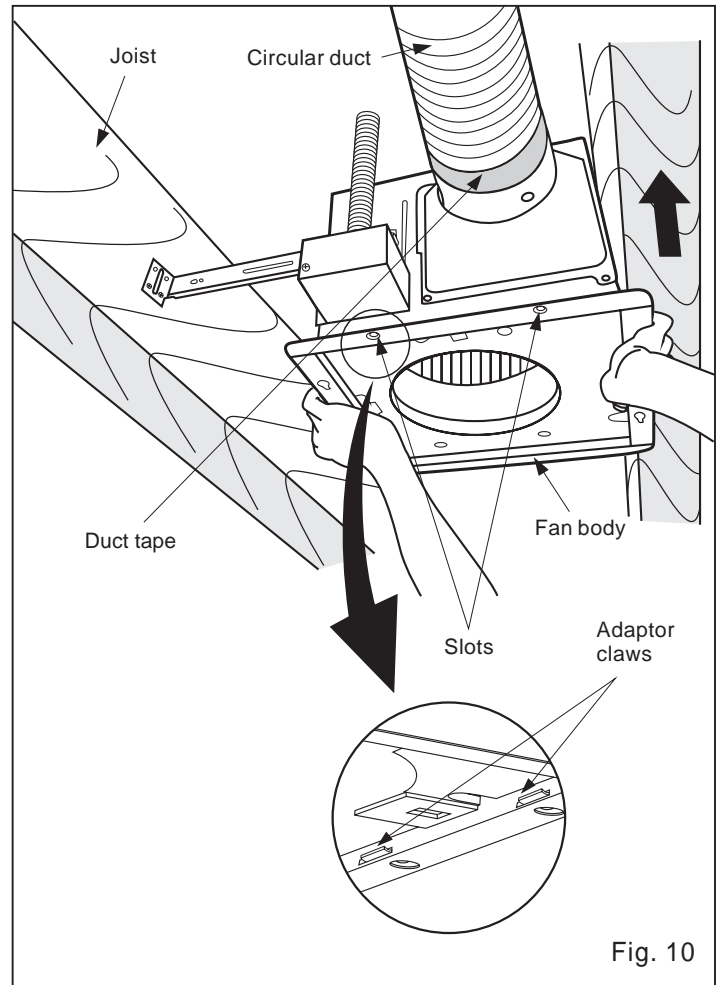

Fig. 10
5. Insert the fan body into joists. (Fig.10)
4. Insert fan body (without blower section) into joists. (Fig.10)